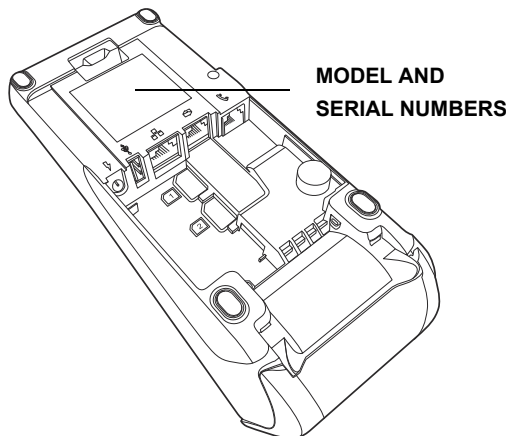

Figure 23 Information Labels on Unit
- 1 Gather the following information from the printed labels (see Figure 23) on the underside of each unit to be returned:
- Verifone serial number assigned to the unit you are returning for service or repair (serial numbers are located on the top of the unit, (see Figure 23)